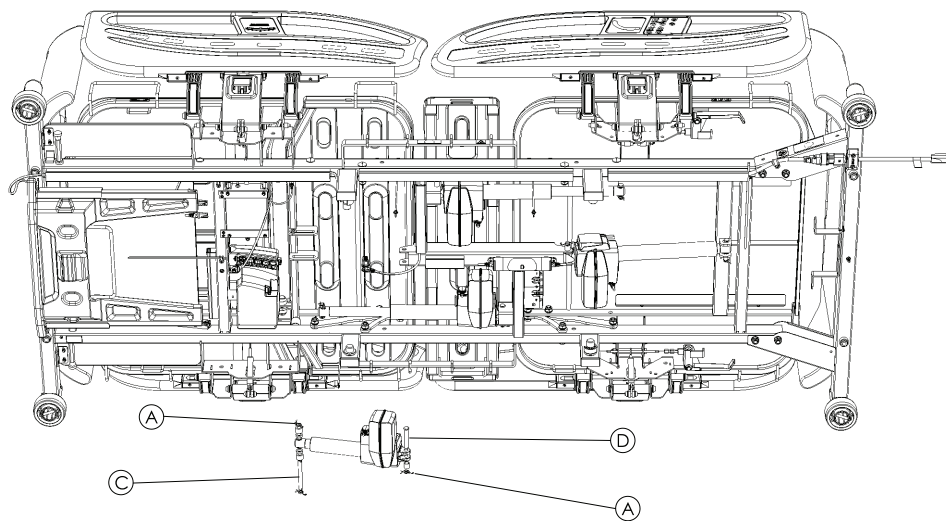

Figure 3: Gatch (legrest) actuator
6. Using needle nose pliers, remove and discard the rue ring cotter pins (A) (Figure 3 on page 40) from each clevis pin.
7. Using one hand, support the gatch (legrest) actuator and remove the foot end clevis pin (C) (Figure 3 on page 40) and spacers then allow the gatch (legrest) actuator to pivot down.
8. Using one hand, support the gatch (legrest) actuator and remove the head end clevis pin (D) (Figure 3 on page 40) and spacer.